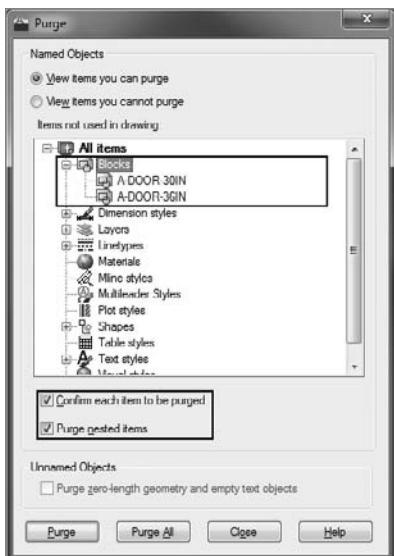

FIGURE 9.52 Deleting the block references with the Purge dialog box
3. Click the plus sign (+) to expand the Blocks entry to see the two door blocks (see Figure 9.52). Select the Blocks entry, check the Purge Nested Items option, and make sure Confirm Each Object To Be Purged is unchecked. Click the Purge button, and then close the dialog box.